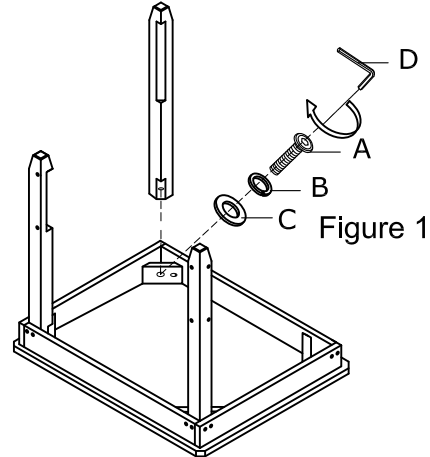

Figure 1
1. Turn the top upside down on a clean soft surface and attach the three legs to the table top using Flat Washer (C), Lock Washer (B) and Bolt (A), tighten with the Allen Wrench (D). As Shown in Figure 1. (Do not over tighten bolts during assembly.)